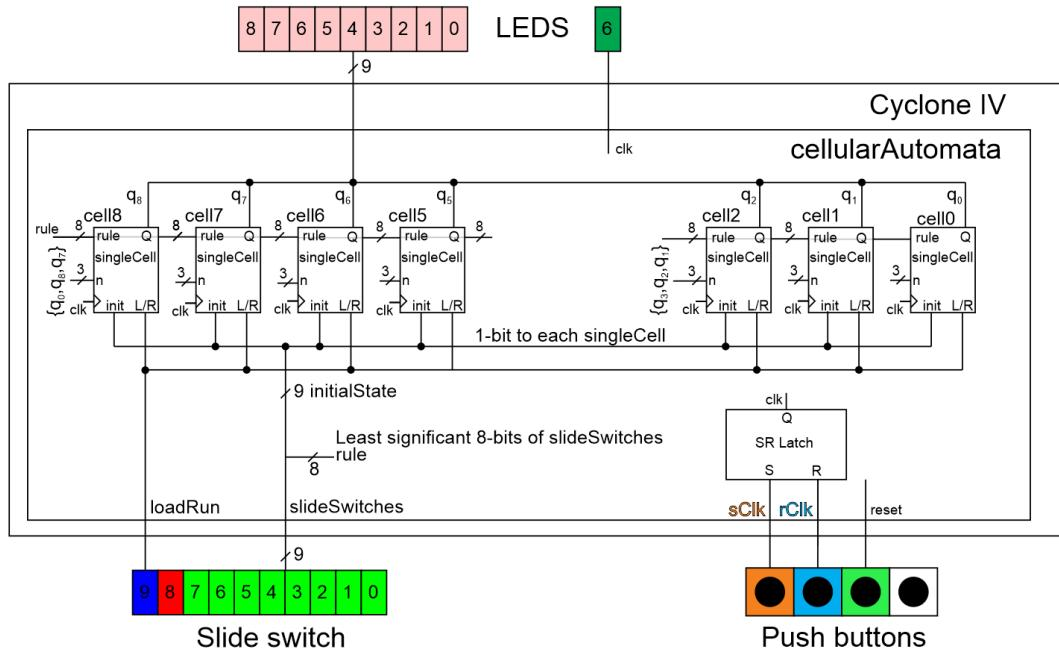
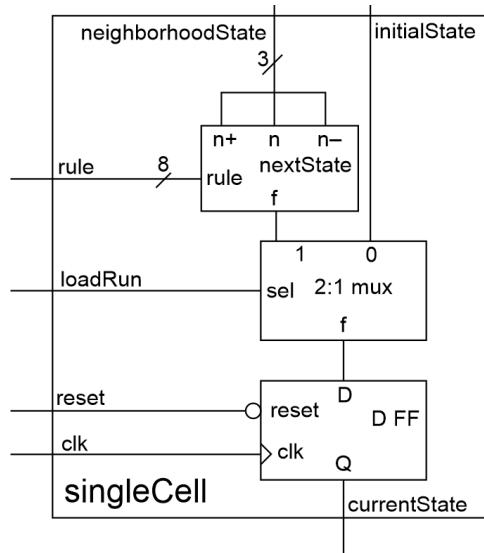

Figure 7.6: The system architecture of the cellularAutomata. Due to tight spacing, only the n inputs to cell8 and cell2 are shown.
Figure 7.7: The architecture and module interface for the `singleCell` module.
The system architecture shown in Figure 7.6 shows the overall organization of the cellular automata. Slide switches [0-7] are used as initial state when the loadRun slide switch is set to 0. When the loadRun slide switch is set to 1, slide switches [0-7] are used as the evolution rule. The clock is generated by the SR latch whose inputs are sClk and rClk. The state of the cells are displayed on the 9 red LEDs. The processing elements forming the array are called singleCell and discussed in the next section.
- Make cell 8 have cell 0 as its “left” neighbor in Figure 7.6
- Make cell 0 have cell 8 as its “right” neighbor in Figure 7.6
The significant design problem in today's lab comes in this section, building the `singleCell` module. The module interface for the `singleCell` module in Figure 7.6 used some shorthand for the single names due to the space constraints. The internal organization and module interface for the `singleCell` module is shown in Figure 7.7. For example, the output `currentState` in this figure was called `Q` in Figure 7.6. You should be able to decipher the rest of the signal abbreviations used in Figure 7.6.
Table 7.2: The input/output relationship for the `nextState` functionality in Figure 7.7.